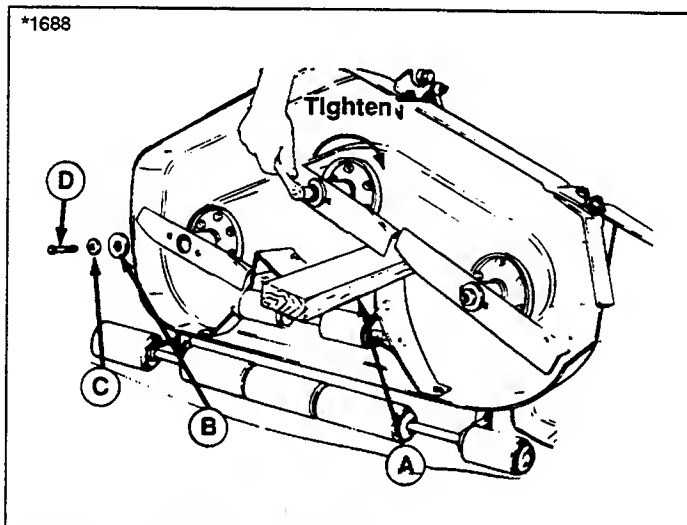

Figure 23. Installing The Blade
6. Reinstall each blade with the tabs pointing up toward deck as shown in figure 23. Secure with a cap screw (D), cup washer (C) and spline washer (B). Use a wooden block to prevent blade rotation and torque cap screws to 50-70 ft.lbs. (67-95 Nm.).